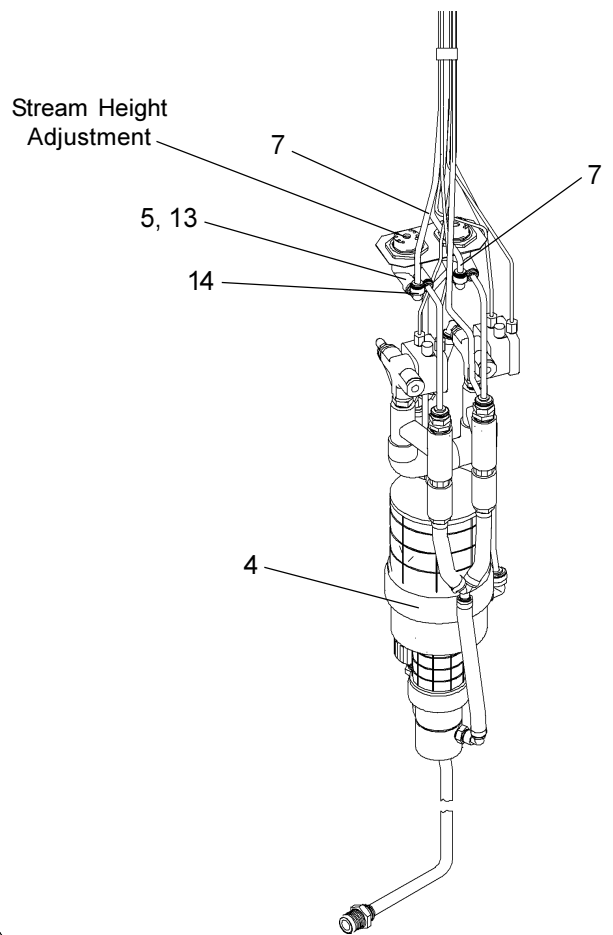

FIG. 5
- Remove the cleanout plug from the PVC column. Remove the valve assembly from the PVC column by carefully pulling up on the strap and connecting tubing at the same time. Pressure test the valve assembly for leaks. Check stream height from the bubbler. Stream height is factory set at 35 PSI. If supply pressure varies greatly from this, adjust the screw on the regulator (Item 13, Fig. 5, Page 10). Clockwise adjustment will raise stream and counter-clockwise adjustment will lower stream. For best adjustment stream height should be approx. 1-1/2" (38mm) above the bubbler guard. Replace the valve into the PVC column. Make sure the supply hose coils into the bottom of the PVC column without any kinks and double check that the valve is positioned fully at the bottom of the PVC column. Cap the PVC column.